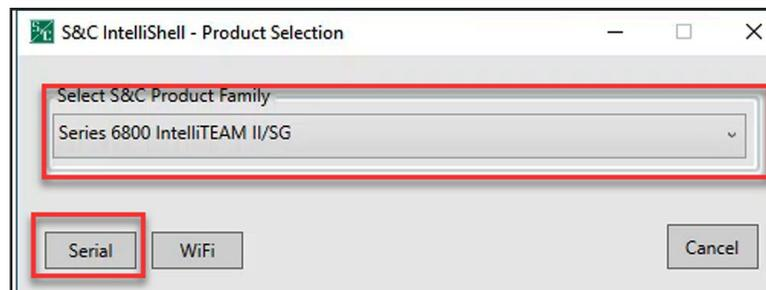

Figure 58. The Product Selection and Serial connection option.
STEP 2. Select the product on which to perform the factory reset and click on the **Serial** button. See Figure 58.